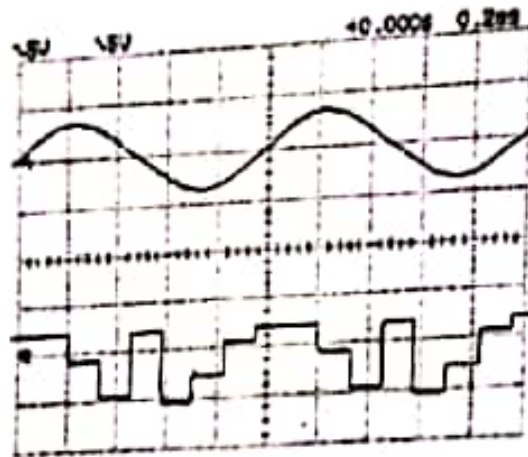

Figure 5-12. Message signal(Above) & Clipping D/A conversion output(below)
(19) Compare and observe input message signal and demodulation message signal by connecting CH-1 input probe of oscilloscope to AUDIO OUTPUT of PCM I module.
(20) Connect CH-2 input probe of oscilloscope to J3 terminal of PCM I module.
(21) Make the ramp voltage to  $-6[V_{pp}]$  by adjusting Amplitude ADJ. control terminal of RAMP GENERATOR from PCM I. At that time, oscilloscope would be appeared as figure 5-12.